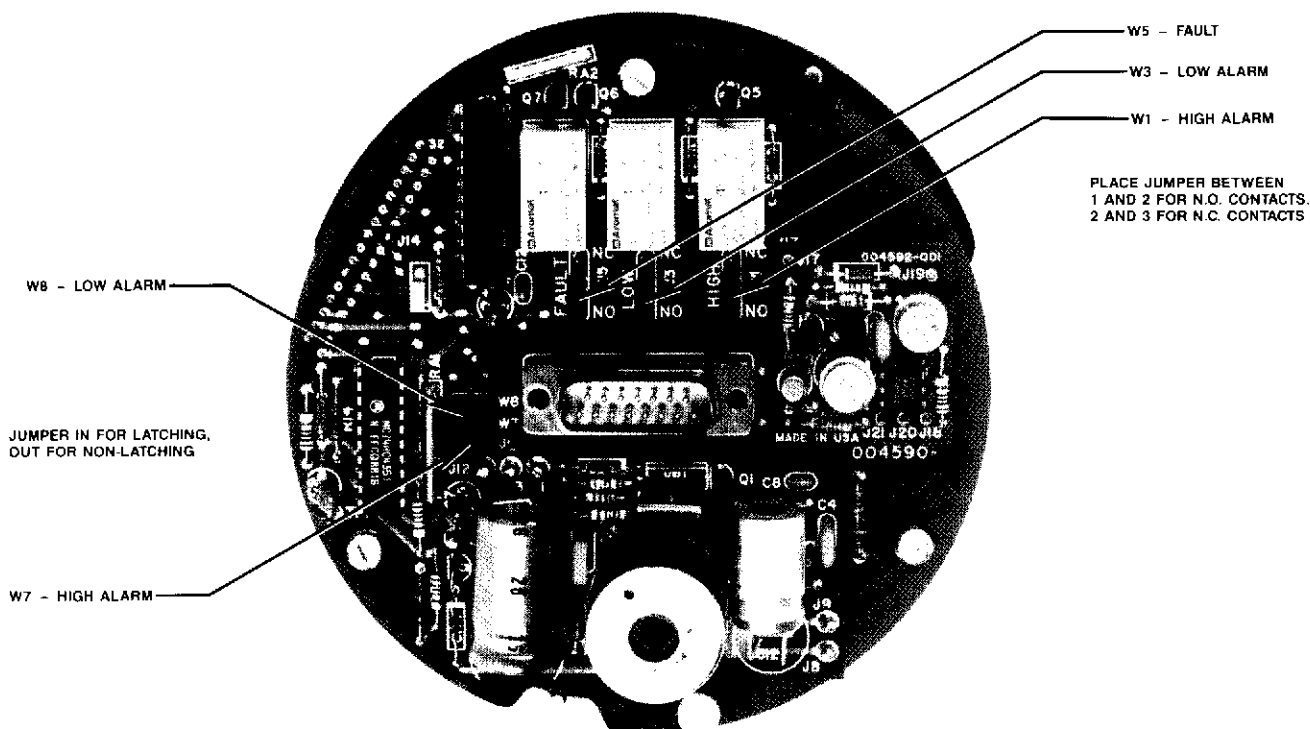

Figure 4—Relay Programming
4. If the U8800 is equipped with relays, they must be programmed for either normally open or normally closed operation. This is accomplished by placing jumpers (provided) on the appropriate pins of terminals W1, W3 and W5, which are located on the plug-in electronic module that was previously removed. Place the jumper between pins 1 and 2 for normally open operation. Place it between 2 and 3 for normally closed. W1 corresponds to the High Alarm relay, W3 to the Low Alarm relay, and W5 to the Fault relay. See Figure 4. Note that the Alarm relays are normally de-energized and the Fault relay is normally energized in the normal operating mode with no alarms or system faults occurring.